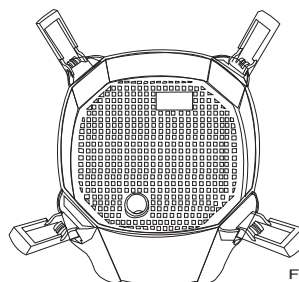
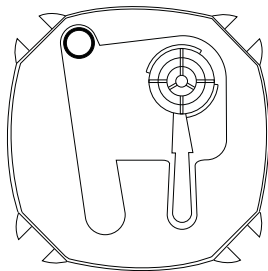

Fig 6
Fig 7
8. Ensure the filter grid is then placed back on top of the last filter basket. This is very important. Fig 6
9. Prior to installing the head unit, turn it over so you can see the impeller. Make certain that the power cord is not wet and plug it into the receptacle then turn it on and ensure it is working. If the impeller does not turn see Cleaning Your Filter for instructions on how to assess the impeller. Remove the Black sealing O-ring from the feeder pipe. Fig 7 and place it on the filter inlet pipe on the top filter basket. Fig 6
18. Repeat steps 14 to 17 for the outlet. Fig 6
19. Place the Suction caps on the spray bar then attach it to the back or side of the aquarium. Fig 7
17. Pull the rubber end cap off the shaft of the impeller and run water through the hole in the middle of the impeller. Clean any debris which may have built up on the shaft off, along with any slime build up on the impeller. Fig 6